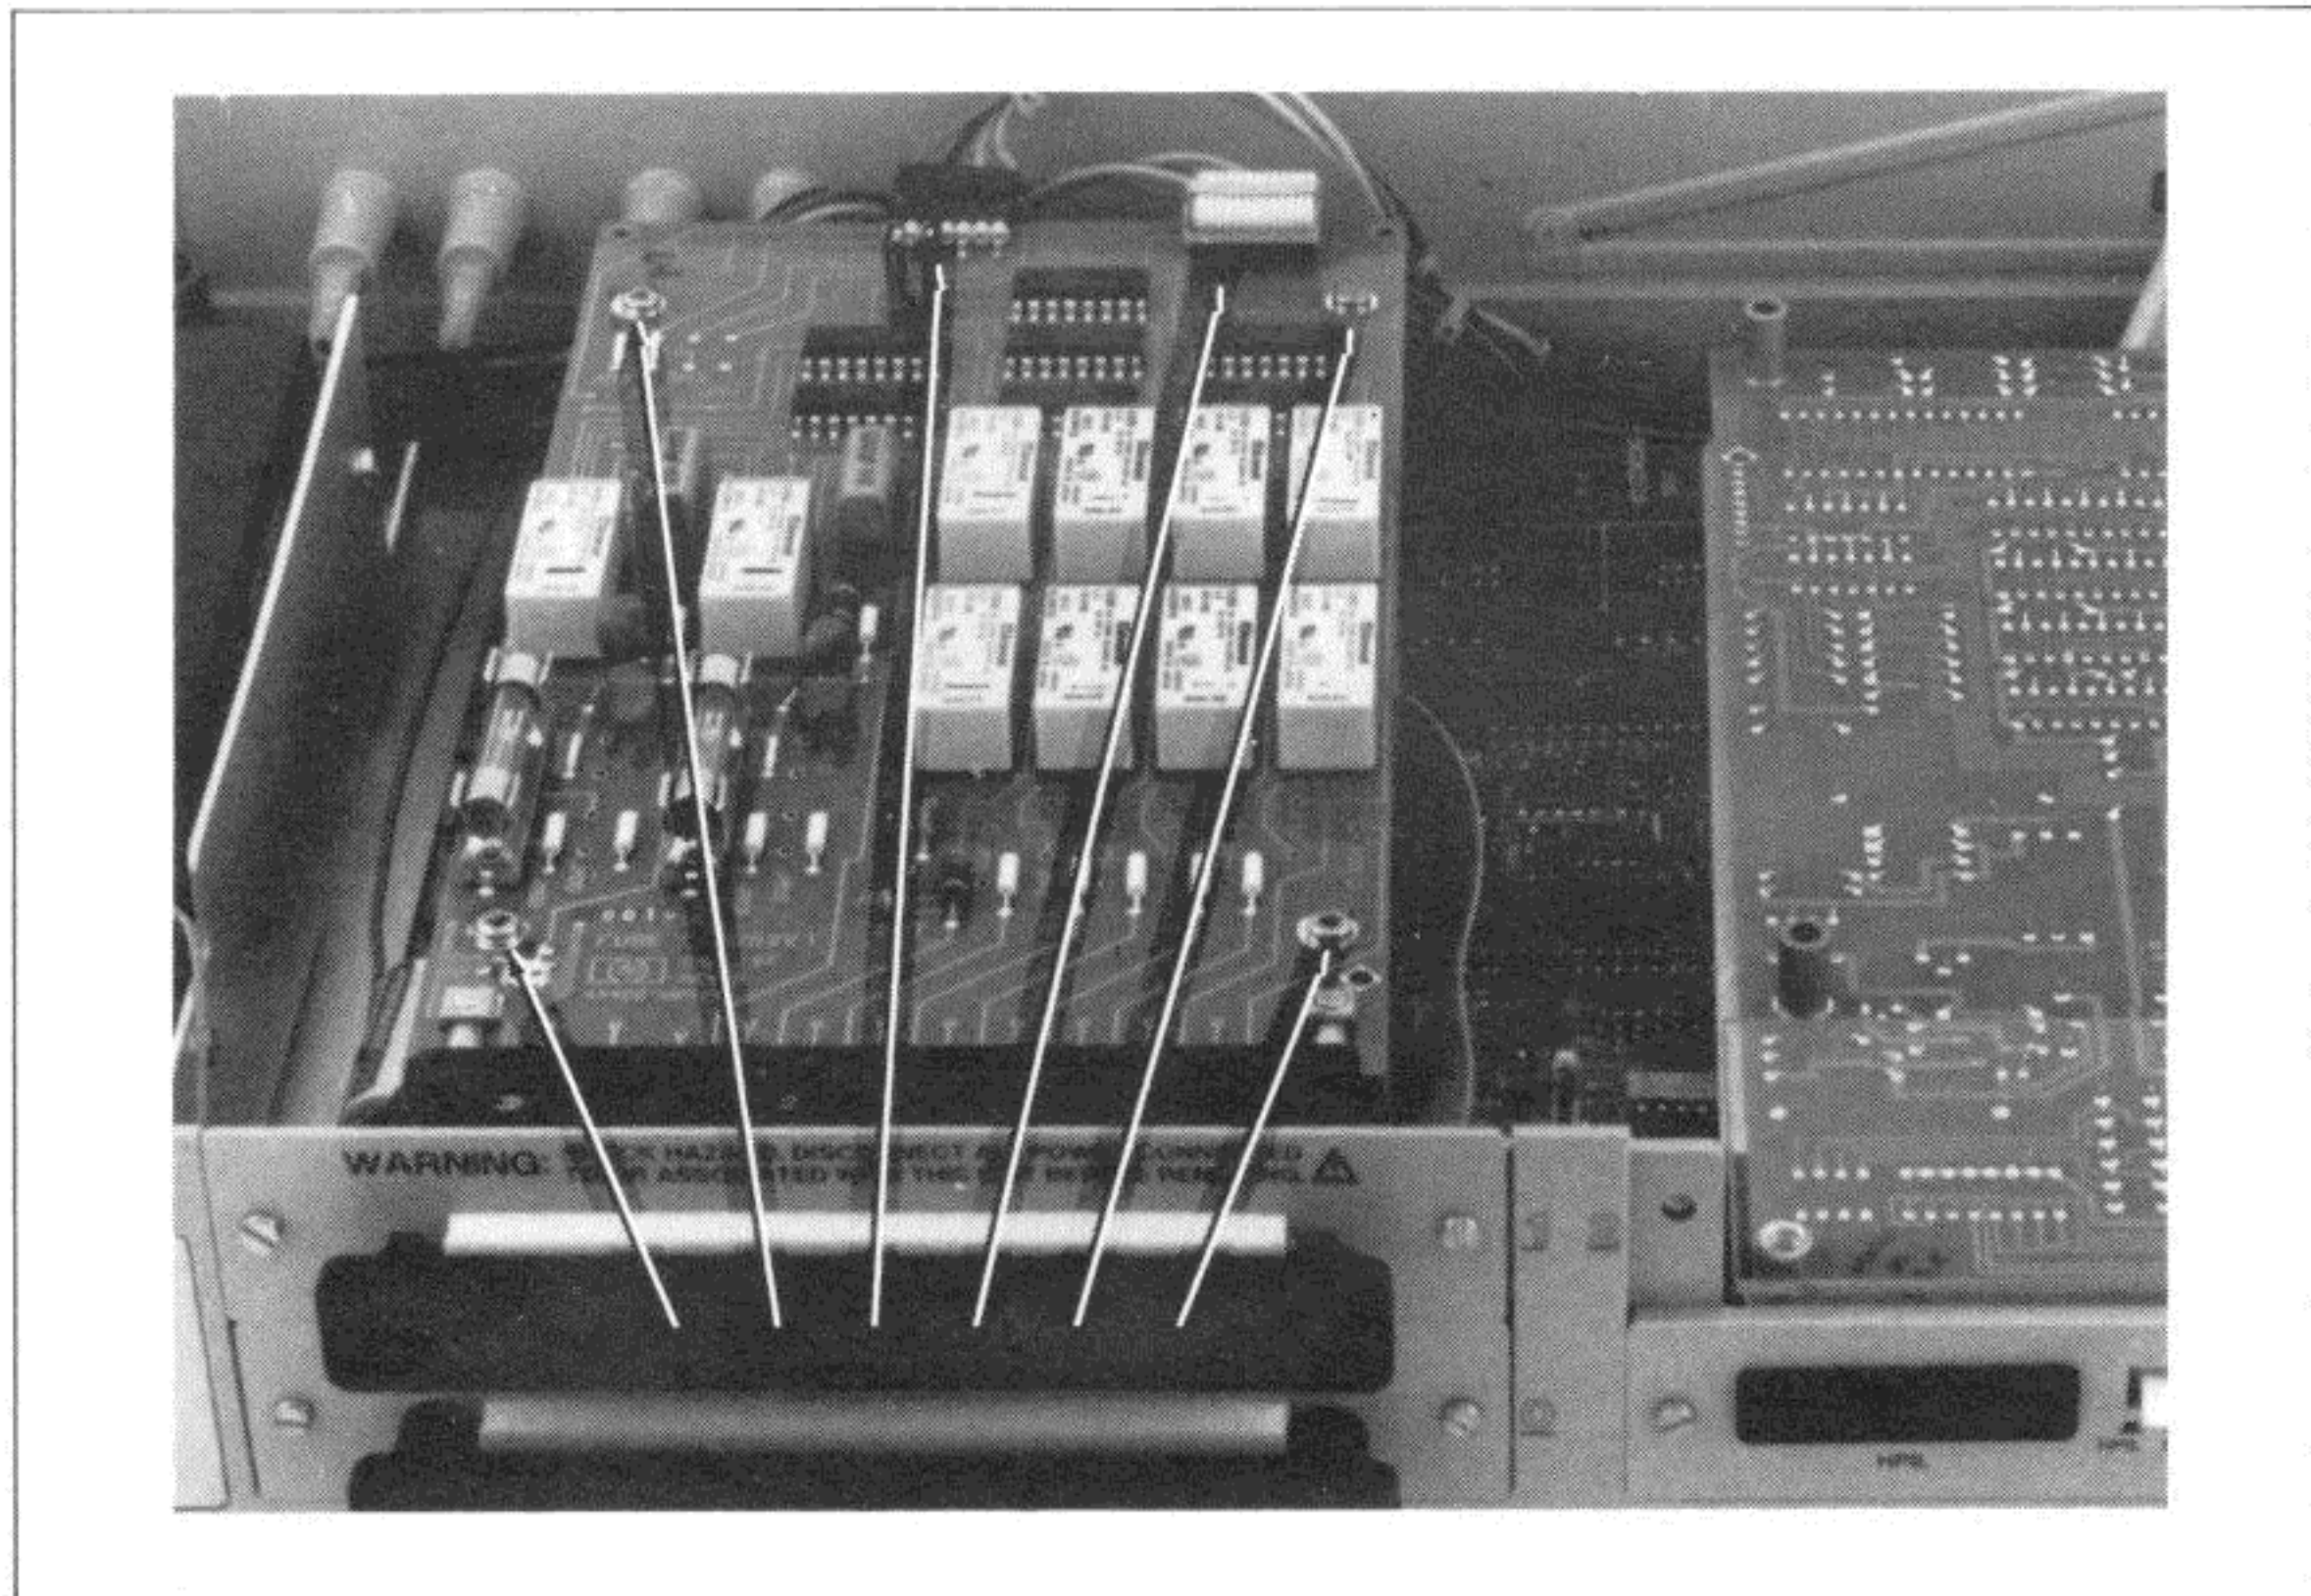

Figure 3-2-4. Unplug Option Cable(s) and Remove Option Screws
a. Refer to Figure 3-2-4 and unplug the ribbon cable connector from the option in slot 1. Lift the connector straight up to avoid bending any pins. If the option is a Multiplexer Assembly, also unplug the 4-wire VM input cable. If the option is a Digital I/O or Breadboard Assembly, it will not have the 4-wire VM input cable.
a. Refer to Figure 3-2-4 and unplug the ribbon cable connector from the option in slot 0. Lift the connector straight up to avoid bending any pins. If the option is a Multiplexer Assembly, also unplug the 4-wire VM input cable. If the option is a Digital I/O or Breadboard Assembly, it will not have the 4-wire VM input cable.
a. Refer to Figure 3-2-4 and unplug the ribbon cable connector from the option in slot 2. Lift the connector straight up to avoid bending any pins. If the option is a Multiplexer Assembly, also unplug the 4-wire VM input cable. If the option is a Digital I/O or Breadboard Assembly, it will not have the 4-wire VM input cable.